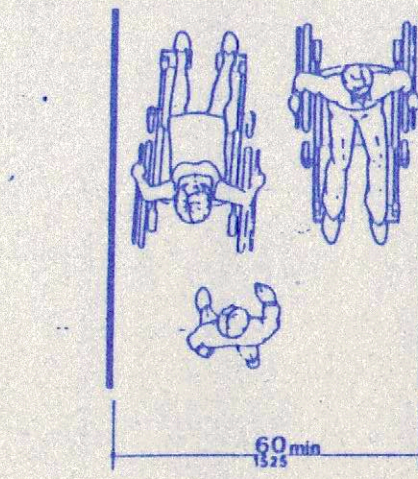

Fig. 2
4.2.2 Width for Wheelchair Passing. The minimum width for two wheelchairs to pass is 60 in (1525 mm) (see Fig. 2).